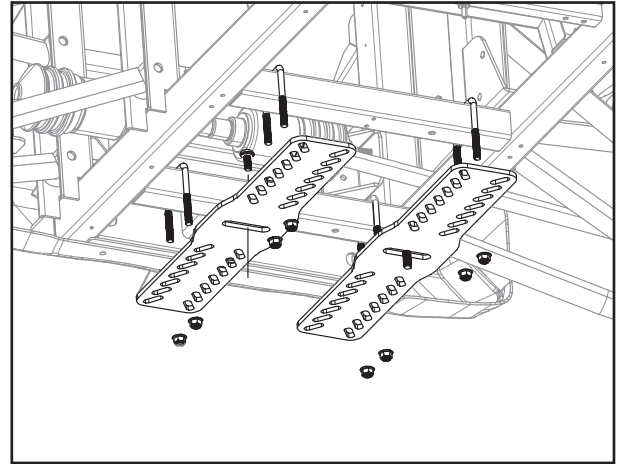

Fig. 2
Step 4: Locate the Mounting Bracket parts and place them near the ATV/UTV. In a well-lit area with enough room to assemble the Snow Plow Mounting Bracket to the bottom of the vehicle frame, place items 1 through 10 near the vehicle.
Step 5: Install the Horizontal Mounting Bracket (1) to the vehicle frame. Ensure the vehicle is cold prior to beginning. With the vehicle lifted up, the wheels chocked, and the brake set, look under the vehicle and determine if the frame is a round tube or square tube. Use the Round Tube U-Bolts (10) if the frame is round tube, and use the Square Tube U-Bolts (1 & 2) if the frame is square tube. Note: Choose an appropriate shape and size, as necessary.
2. Install a Carriage Bolt (3) into the center slot of each Vertical Mounting Bracket (9), and use a piece of painters tape on the back of the bolt to hold it in place (Fig. 2).
3. With the U-bolts as far apart as possible, place one Vertical Mounting Bracket (9) onto the U-Bolts with the Carriage
Bolt (3) threads pointing down. Place a Flanged Locknut (8) on each U-Bolt thread (total 4 each). Thread the locknuts so they are touching the Vertical Mounting Bracket (9), but do not tighten. Repeat this for the other Vertical Mounting Bracket (Fig. 2).